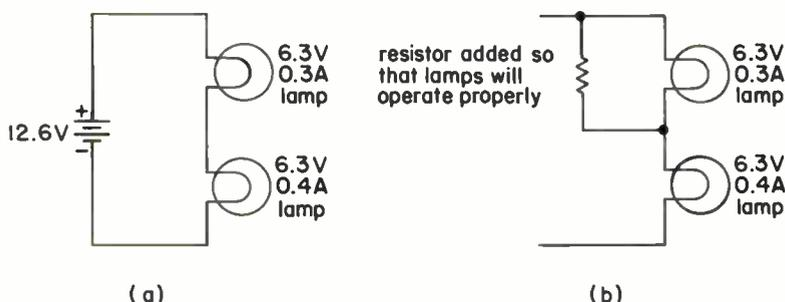

Fig. 6
1. We wish to operate the two 6.3-V lamps in Fig. 6(a) in series. One lamp requires 0.3 A, and the other requires 0.4 A. Would the two lamps operate properly in series across 12.6 V? (a) _____ The resistance of the first lamp is (b) _____ Ω ; that of the second is (c) _____ Ω . The total resistance of the two in series is (d) _____ Ω . When the two lamps are connected across 12.6 V, the current through them is (e) _____ A. By Ohm's law, the voltage across the first lamp is (f) _____ V, and that across the second is (g) _____ V. To make these lamps operate correctly, a resistor can be placed in parallel with one lamp as shown in Fig. 6(b). The resistor must draw (h) _____ A at (i) _____ V. Therefore, the value of the resistor should be (j) _____ Ω .
(h) 0.1 . . . Looking at Fig. 6(a), we can see that our basic problem is that the lower lamp needs 0.4 A for proper operation, while the upper lamp needs only 0.3 A. We can lick this problem by connecting a resistor across the upper lamp as shown in Fig. 6(b), and giving it the necessary resistance value to draw 0.1 A. The resistor and the upper lamp together use $0.3 \text{ A} + 0.1 \text{ A} = 0.4 \text{ A}$. Thus, this parallel combination can be used properly in series with the lower lamp, since the current requirements are now the same. Remember that the flow of current is similar to water flow. Suppose the lower lamp was a water pipe capable of carrying 0.4 gal of water per minute, and that the upper lamp was a pipe that could carry only 0.3 gal per min. In order to keep the flow of water (current) through the lower pipe at 0.4 gal per min, we'd have to put an additional pipe across the first one to carry the additional 0.1 gal per min. All of the water through the first two pipes would then flow through the lower pipe. Similarly, all of the current through the two upper resistances must flow through the lower resistance.